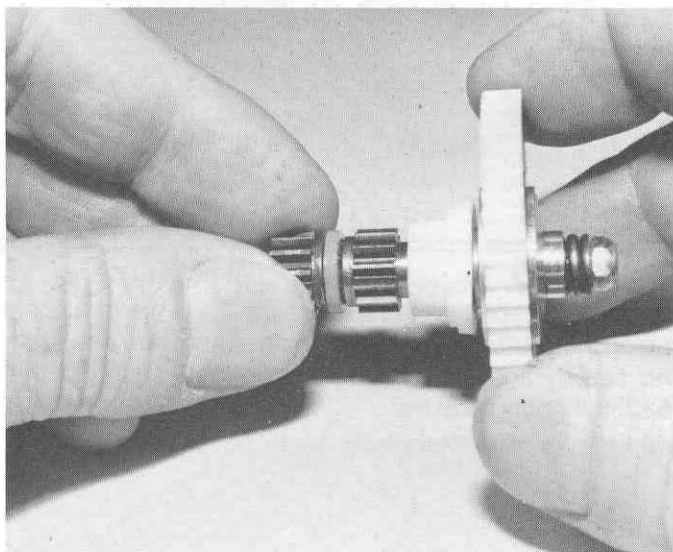

Fig. 79
□ **Fig. 79** Hold the dif assembly in your hands, as shown. Hold the outside small gear still, and slowly rotate the big plastic spur gear. The inside small gear should rotate, and the whole rotation should be very smooth. Then the dif is working correctly. Now hold both small gears tightly in your fingers, and try to turn the big plastic gear. It should be VERY HARD to turn.